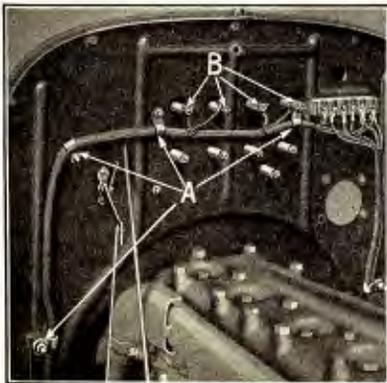

Fig. 93
- (a) Insert loom under the four loom clips on dash (See "A" Fig. 93).